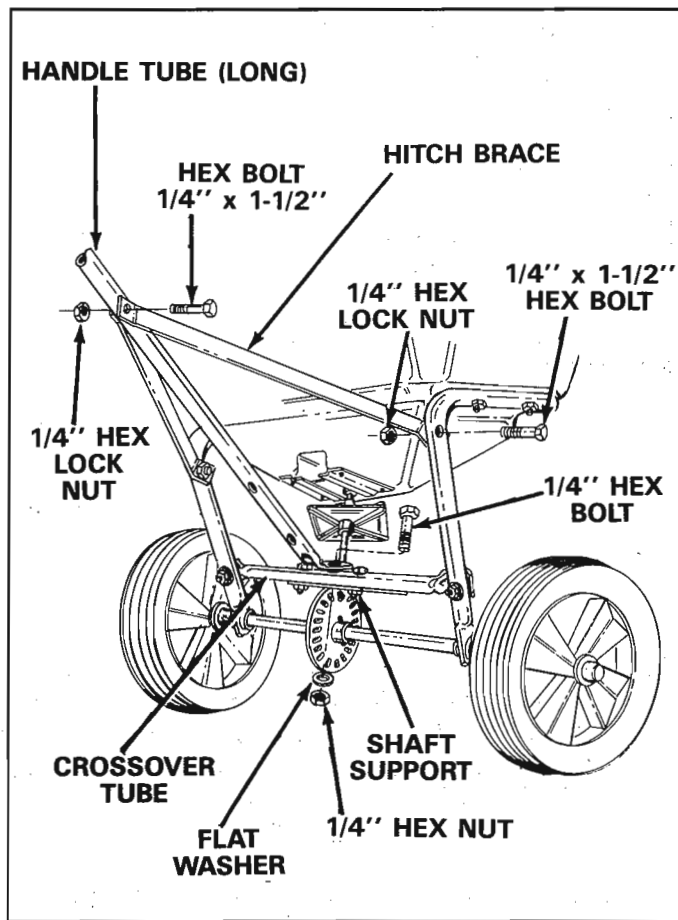

FIGURE 8
- Assemble two hitch braces to the inside of the hopper frame, one each side, using two 1/4" x 1-1/2" and two 1/4" lock nuts. See figure 8. **DO NOT TIGHTEN AT THIS TIME.**
- Align the holes in the ends of the two hitch braces with the nearest hole in the handle tube assembly, secure with 1/4" x 1-1/2" hex bolt and 1/4" lock nut. See figure 8.